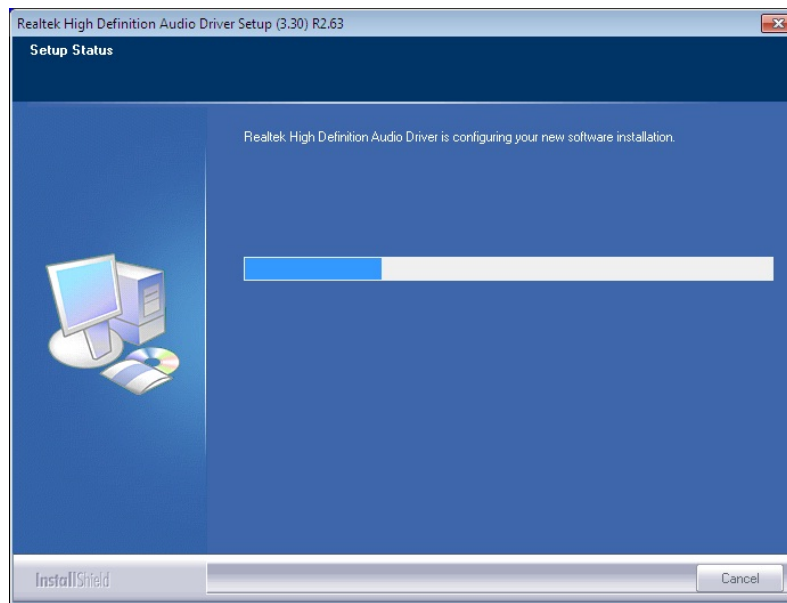

Figure 6-19: Audio Driver Installation
Step 9: The installation progress can be monitored in the progress bar shown in **Figure 6-19**.